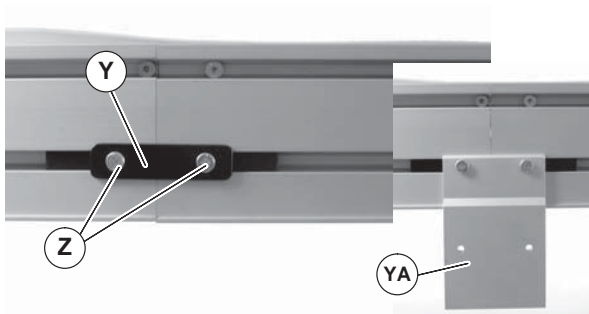

Figure 8
- Join additional conveyor sections if necessary and install connector brackets (Figure 8, item Y) or connector/mount brackets (YA) and screws (Z) on both sides as indicated. Tighten screws to 60 in-lb (7 Nm).